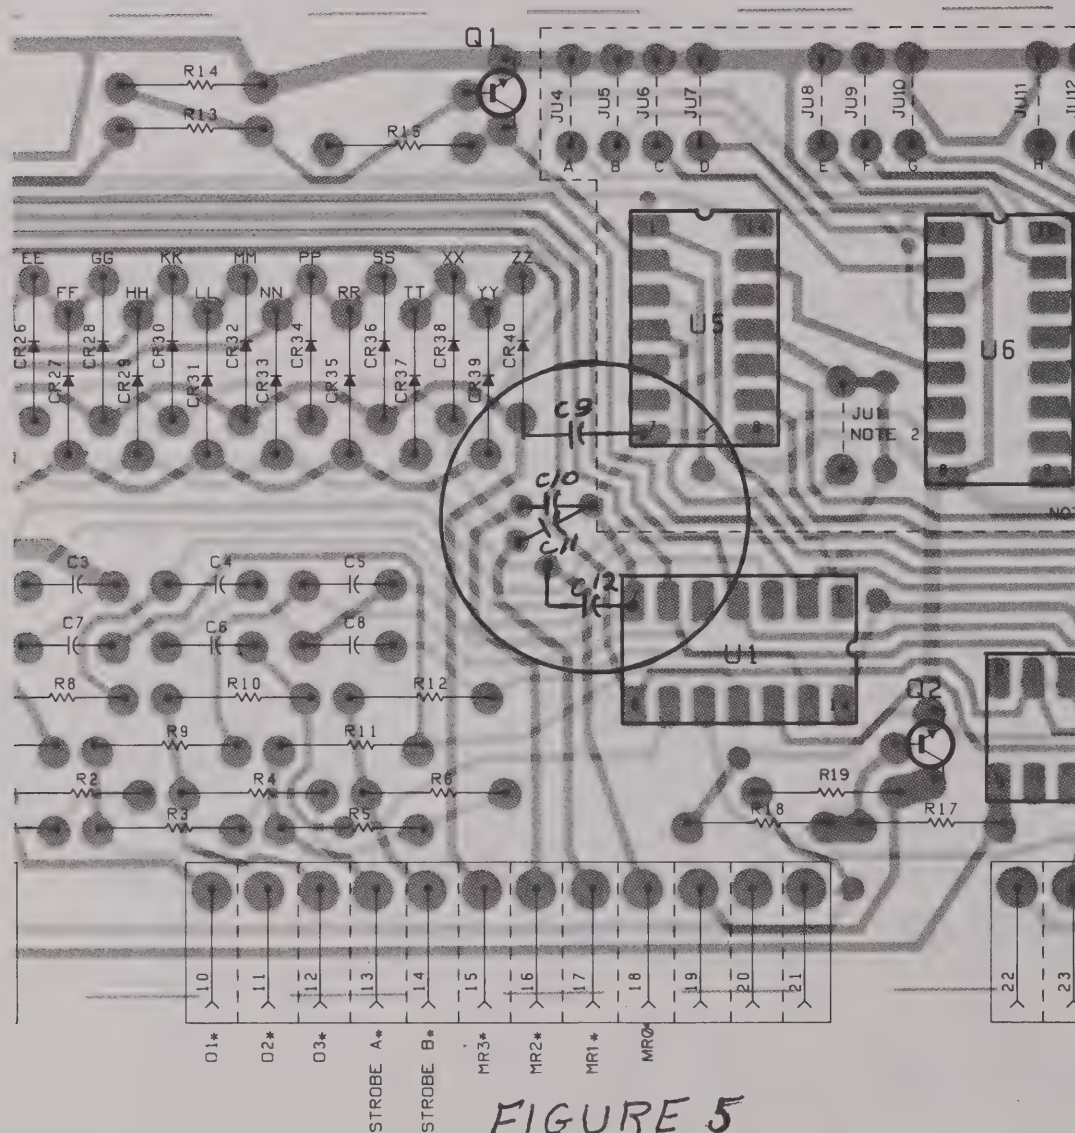

FIGURE 5
Add (4) bypass capacitors from each of the "MR" lines to ground as shown in Figure 5.